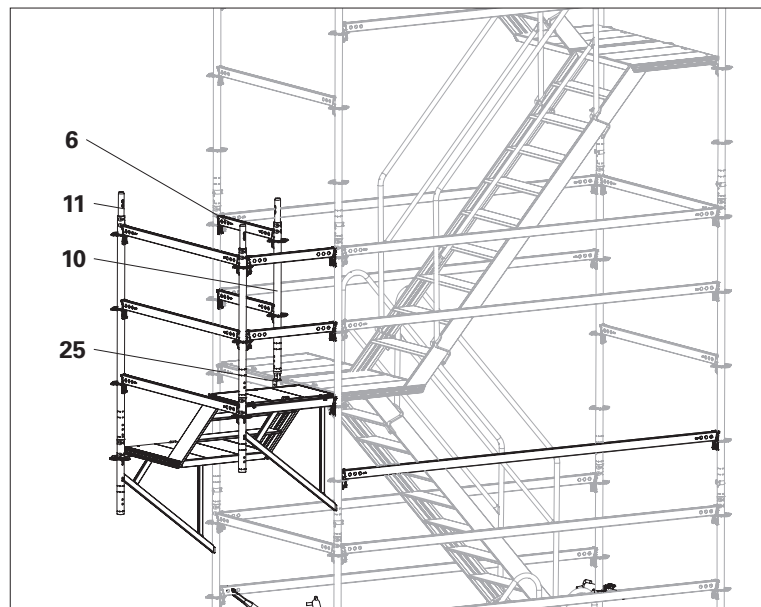

Fig. B6.06
3. Fit 2 x Horizontal Ledgers UH-2 75 (**6**) as lateral protection. (Fig. B6.06)